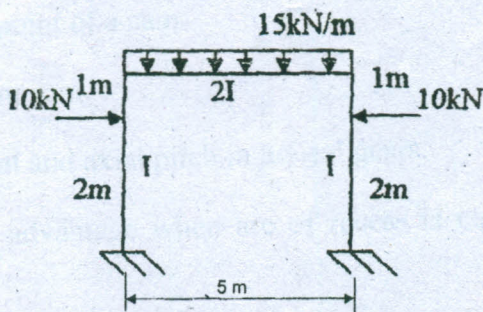

Fig. Q. 14(b)
- (b) Analyse the portal frame shown in Fig. Q. 14 (b) by slope deflection method and draw the bending moment diagram.